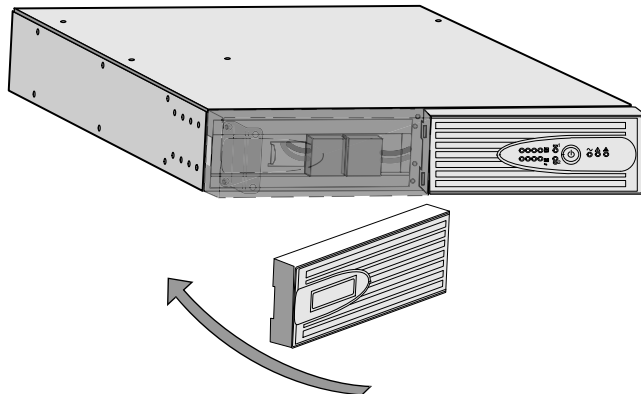

Figure 3. Installing the UPS Front Cover
3. Install the UPS front cover and snap into place (see Figure 3).